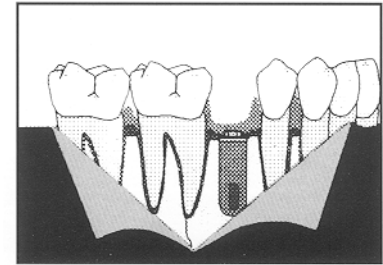

Fig.2
2. An external hex implant, either a cylinder or a screw, is placed in the optimum position relative to the final restoration (Fig. 2). It is important that the head of the implant be sufficiently below the gingival level of the adjacent teeth in order to develop the proper emergence profile. If the implant head is sitting too high, it will be difficult, if not impossible, to develop the proper contours. Particular attention should be paid to the bucco-lingual and the mesio-distal placement of the implant.